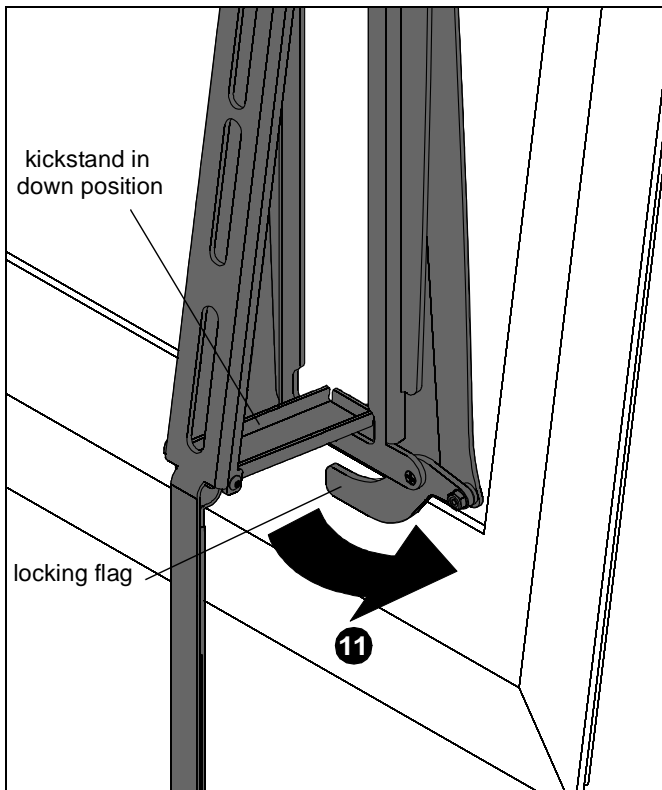

Figure 5
11. Rotate flags on each interface bracket to the closed position in order to lock brackets to wall plate. (See Figure 5)